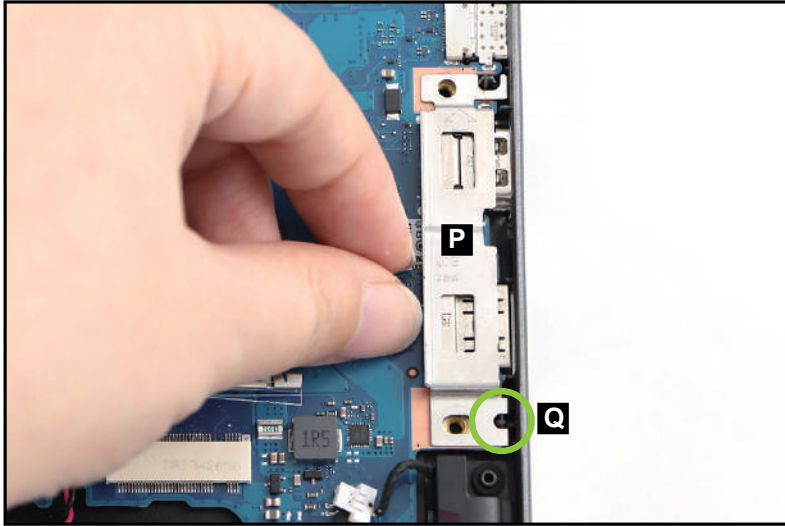

Figure 3-65. Mainboard Removal
14. Lift the right IO bracket (P) to release it from the guide pin (Q) (Figure 3-65). Then remove the IO bracket.